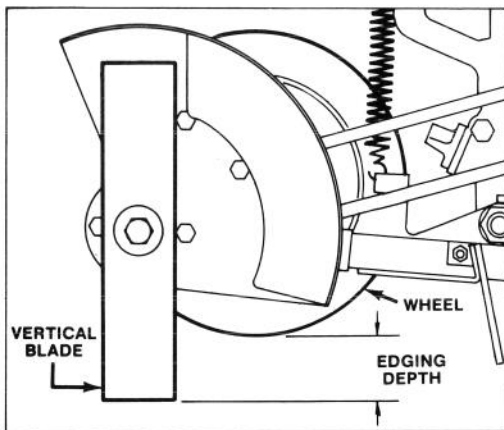

Figure 11
2. CHECK EDGING DEPTH (Fig. 11) — Squeeze blade/clutch lever against handle. Space between bottom of tire and ground is actual blade edging depth. If adjustment is required, go to step 3.